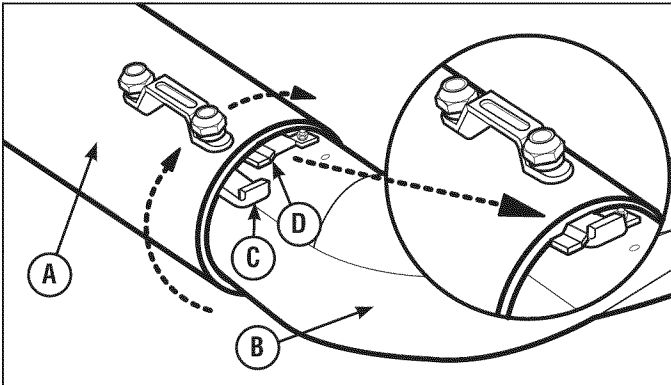

Figure 14
2. Slide lower end of tube (A, Figure 14) over adapter end (B)
3. Rotate tube towards mower to secure handle hook (C) under latch (D).